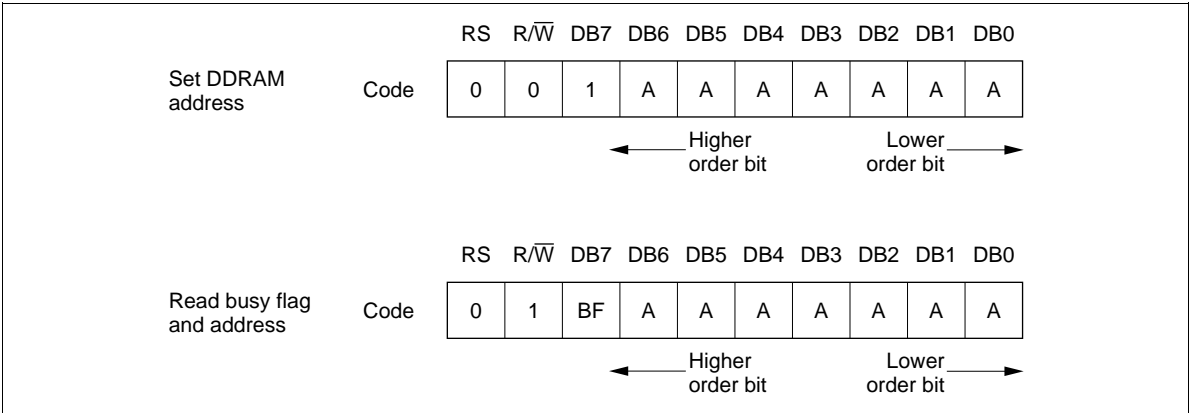

Figure 13 Instruction (2)
**C:** The cursor is displayed when C is 1 and not displayed when C is 0. Even if the cursor disappears, the function of I/D or other specifications will not change during display data write. The cursor is displayed using 5 dots in the 8th line for  $5 \times 8$  dot character font selection and in the 11th line for the  $5 \times 10$  dot character font selection (Figure 13).
**B:** The character indicated by the cursor blinks when B is 1 (Figure 13). The blinking is displayed as switching between all blank dots and displayed characters at a speed of 409.6-ms intervals when  $f_{cp}$  or  $f_{osc}$  is 250 kHz. The cursor and blinking can be set to display simultaneously. (The blinking frequency changes according to  $f_{osc}$  or the reciprocal of  $f_{cp}$ . For example, when  $f_{cp}$  is 270 kHz,  $409.6 \times 250/270 = 379.2$  ms.)